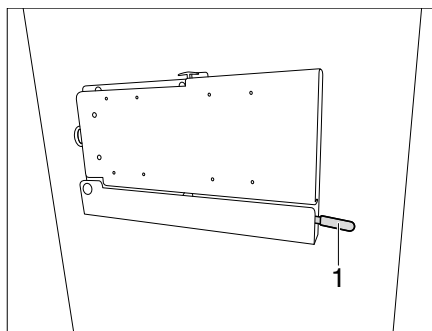

Fig. 139 Holder with jointed arm (variant 3)
- Pull down the lever (Fig. 139,1).
- Push the lever (Fig. 139,1) back up to lock.